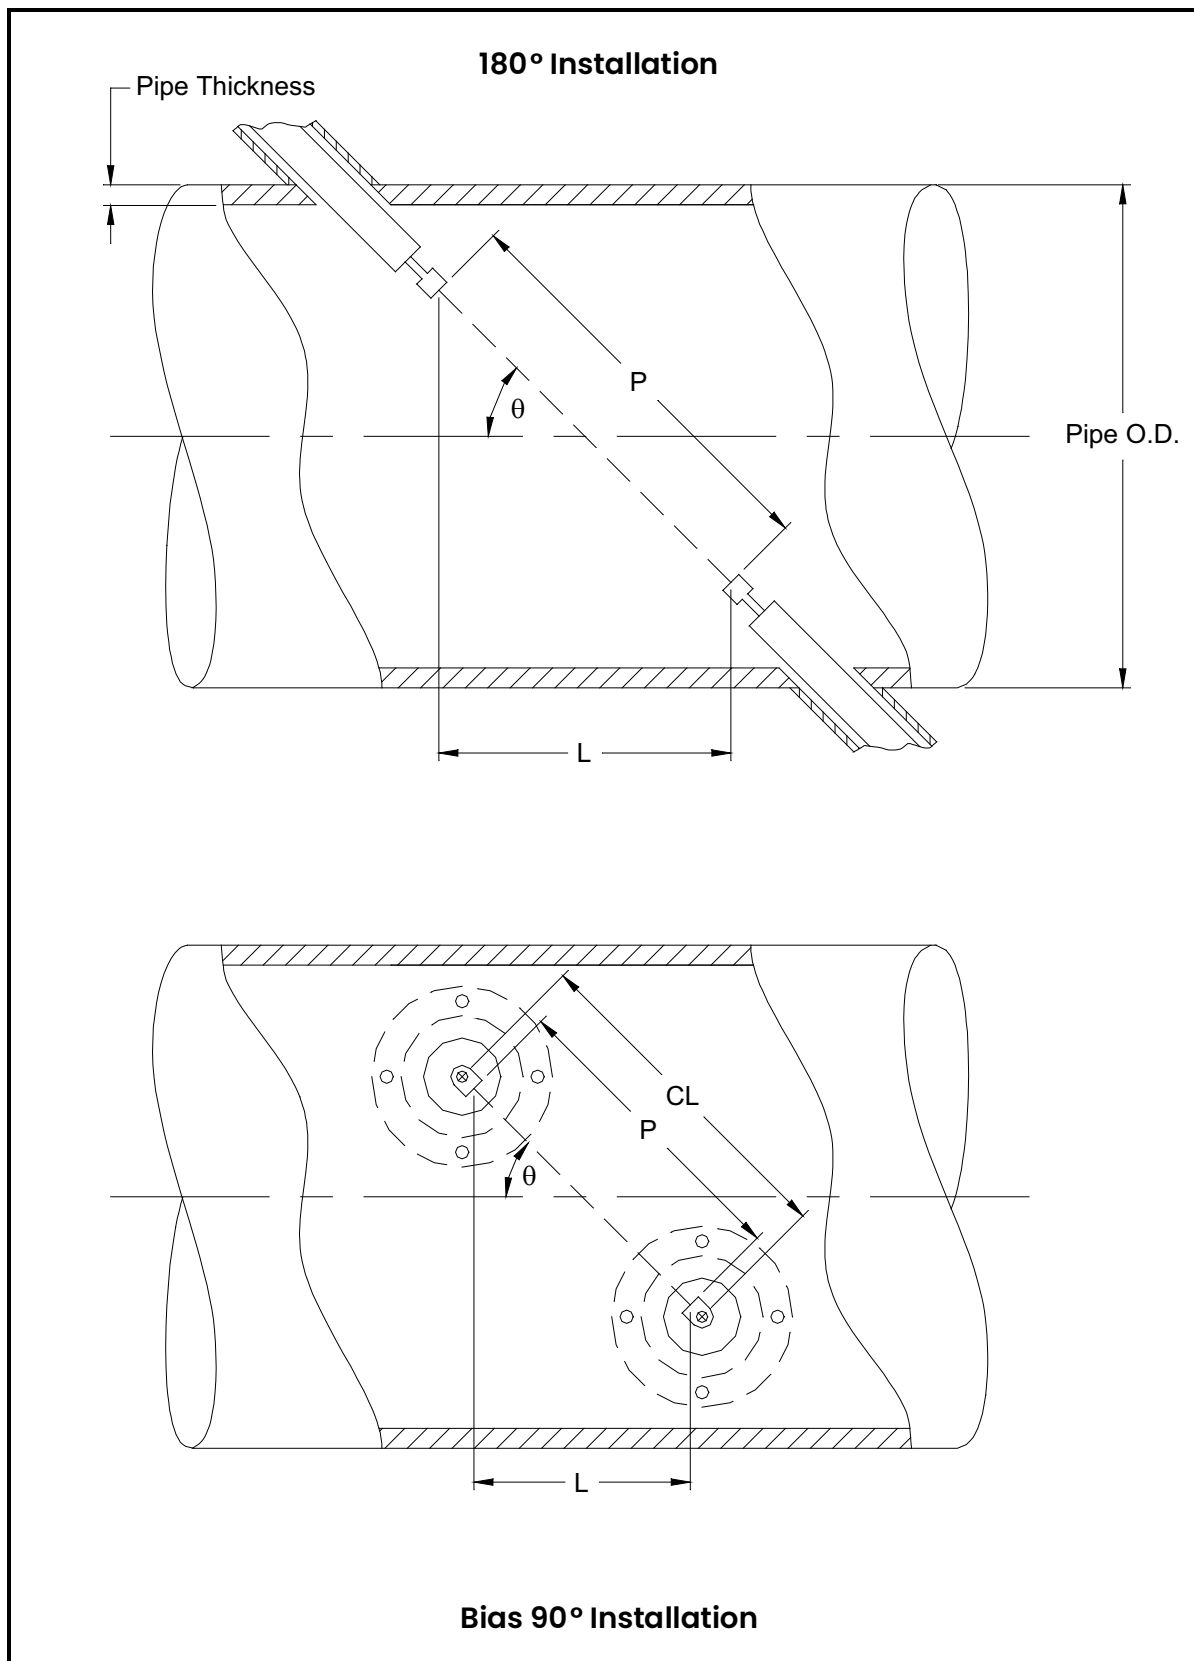

Figure 18: Top View of Transducer Installations
The accuracy of the programmed P and L values is critical to precise flow rate measurements. If the factory supplies the flowcell for the system, the correct values will be included in the documentation supplied with the unit. For transducers installed on an existing pipe (see Figure 18 on page 56), P and L must be measured at the site. This appendix provides instructions for properly determining these dimensions.
Whenever possible, physically measure the face-to-face distance (P) and the axial distance (L) between the centers of the flat faces of the transducers. Refer to Figure 18 on page 56 for an illustration of the proper distances to measure in a typical installation.
With a Bias 90° transducer installation, it sometimes happens that the only known parameters are the transducer angle (θ) and the centerline distance between the transducer bodies (CL). In these cases, it is still possible to calculate P and L by combining Equation D-1 above with the additional Equation D-2 below (see Figure 18 on page 56):